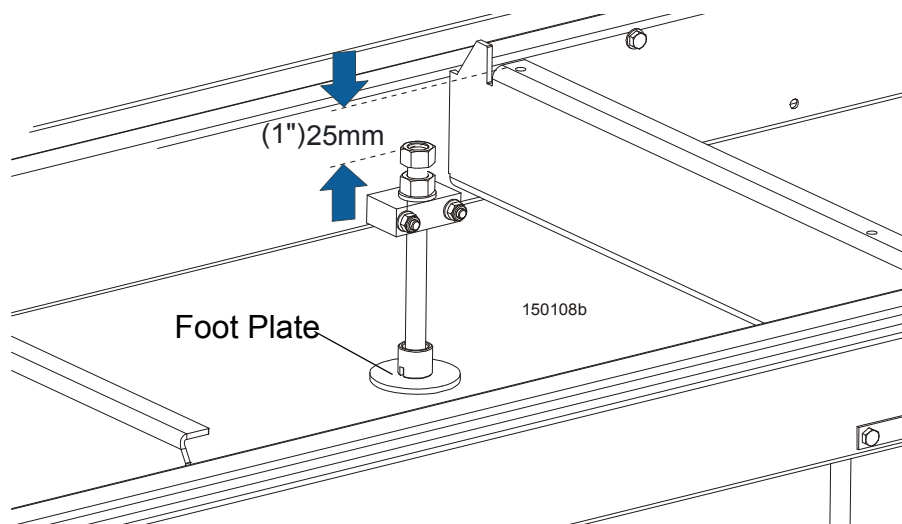

**FIG. 2-7**
- Install the log side supports as shown in Figure 2-7. Tighten the nuts so that the side supports can be moved with little resistance. See Section 6.11.
See Figure 2-7.